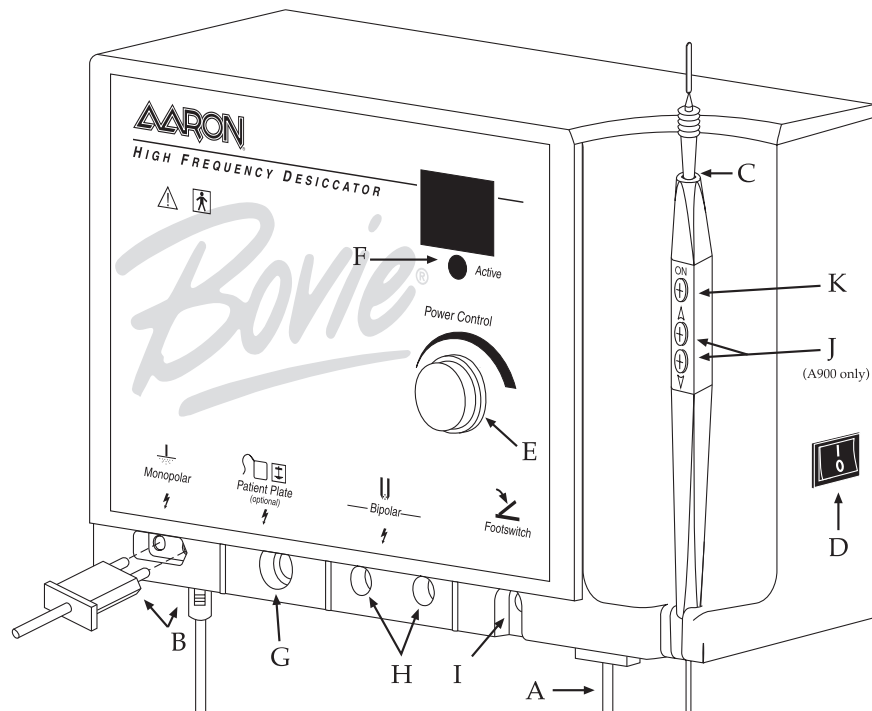

Figure 2
2. Plug the female end of the power cord into the base of the unit (see figure 2, letter A).
4. Plug the handpiece into the monopolar output on the lower left of the front on the unit (see figure 2, letter B). The plug is designed to fit in only one direction. Plug the smaller round connector from the handpiece (A900 only) into the receptacle on the bottom of the unit (see figure 2, letter B). The three button handpiece is designed to give the doctor complete fingertip control of the power output settings.
5. Slide the standard electrode into the handpiece until it is firmly seated (see figure 2, letter C). The handpiece will accept most standard $\frac{3}{32}$ " electrodes.
7. Turn the unit power on utilizing the switch on the right side panel of the unit (see figure 2, letter D).
8. Set the power output either by using the dial on the front of the unit (see figure 2, letter E) or on Aaron 900 unit only by the up and down buttons on the handpiece (see figure 2, letter J). When power level adjustment is being made by the handpiece an audible tone will sound to indicate that the power level has been changed. Depressing and holding the up or down buttons will cause the power settings to change more rapidly for quick adjustment of the output settings. Power output is displayed in ".1" watt increments below 10 watts and in whole numbers from 10 to 30 watts.
9. To activate the unit, remove the handpiece from the holder. Place the handpiece in the desired position and depress the activation button (see figure 2, letter K). When the unit is activated, an audible tone is sounded and the blue active light will illuminate (see figure 2, letter F).
10. To use the optional grounding plate with cord (A802EU), insert the plug of the cord into the grounding plate output (see figure 2, letter G) and connect the other end into the grounding plate. The plate should be placed underneath the patient at a point where the entire plate is covered by bare skin. Do not use gels or creams on the plate.
11. To use the optional bipolar cord (A827EU), insert the plugs into the bipolar outputs (see figure 2, letter H). The cord is then plugged into the forceps. A sliding gate behind the monopolar and bipolar outputs prevents the user from using both simultaneously.
12. The optional footswitch is plugged into the footswitch output and placed on the floor (see figure 2, letter I). The footswitch can be used with monopolar procedures and must be used with bipolar procedures.